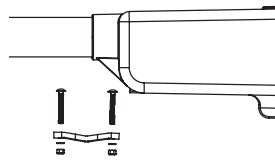

Figure 5
8. For the T-slot mount make sure one **T-slot Bolt** is on each side of the crossbar. Using the **Non-Threaded T-slot Foot**, place it under the crossbar and insert both **T-slot Bolts** into the corresponding holes in the foot. Using a $\frac{1}{2}$ inch **Wrench** screw on **T-slot Nuts** to secure unit to crossbar as shown in **Figure 5**